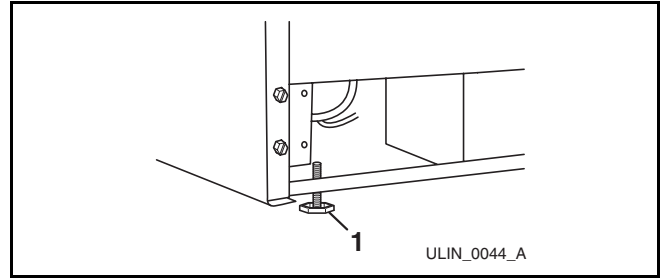

Figure 35
2. If the unit is not level, adjust the feet on the corners as necessary (**Figure 35**). Rotating the feet clockwise raises the unit.